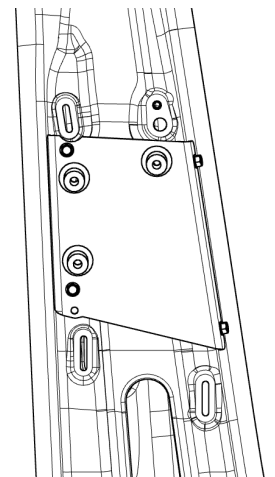

Figure 2
- C. Verify that the B-pillar bracket is located correctly by checking that the notch on the top of the bracket is well-fit around one of the embossed areas for an upper B-pillar trim clip (Fig 2).
- D. Secure the B-pillar bracket in place with a 3/8" socket and (4) [3X162] self drilling screws. The holes can be pre-drilled with a 3/16" drill bit if necessary.